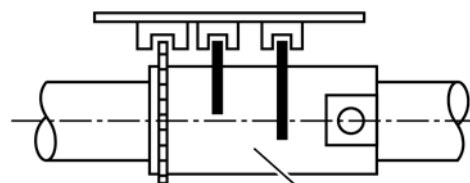

Fig. 19
- Tighten the fastening screw on control cam 32 whilst ensuring that the cams of the control cam are in the middle of the circuit board guides (fig. 19).